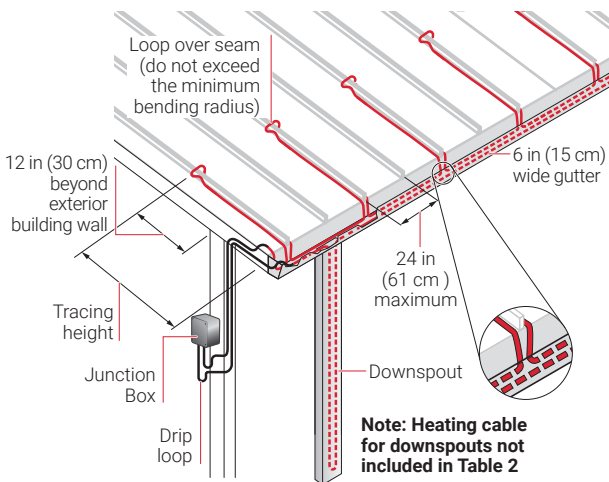

Figure 13: Layout for standing seam roof
For sloped standing seam metal roofs, ice dams may form at the roof edge. To maintain a continuous path for melt water runoff, route the heating cable along the seams as shown in Figure 13 below. Additional heating cable may be needed for downspouts and valleys.
3. Run heating cable up the seam until it is at least 12 in (30 cm) past the exterior building wall and into the heated area below the roof taking care not to damage the heating cable. Secure cable in place using one-hole clips or other similar attachment clip. Table 2 shows the heating cable required per foot of roof edge for several common “Tracing heights” and includes two runs along the gutter (see details in Figure 13).
- Run the heating cable up one side of the seam, loop it over to the other side, taking care not to exceed the minimum bending radius, and return it to the bottom of the gutter. Continue along the bottom of the gutter to the third seam and repeat the process as shown in Figure 13. If the seams are more than 24" apart, trace every seam.
- Loop heating cable into each downspout as shown. The cable should extend all of the way down to the bottom of the downspouts. Install a single run of cable back along the gutter to the junction box as shown in Figure 13. It is not necessary to attach the heating cable to the gutters. If attachment is required, use 2 in (5 cm) wide metal foil adhesive tape to secure the cable to the bottom of the gutter.
** includes two runs of cable in gutter as shown in Figure 13